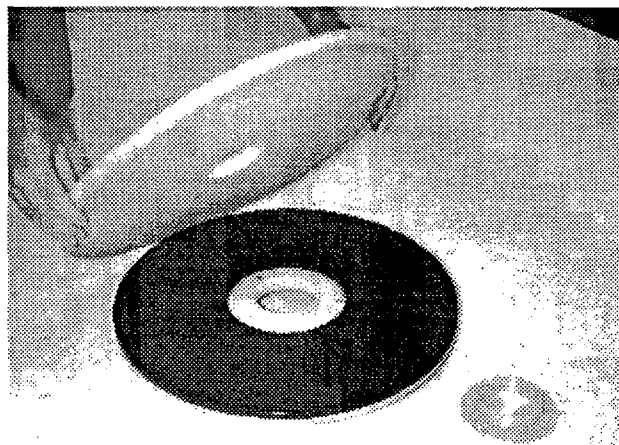

FIG. 5
- (For Pad Installation) Attach pad to pad driver. Attach pad before installing pad driver to motor hub: Remove plastic centerlock from pad driver. Position pad centered on pad driver and replace centerlock securely. (Figure 5)